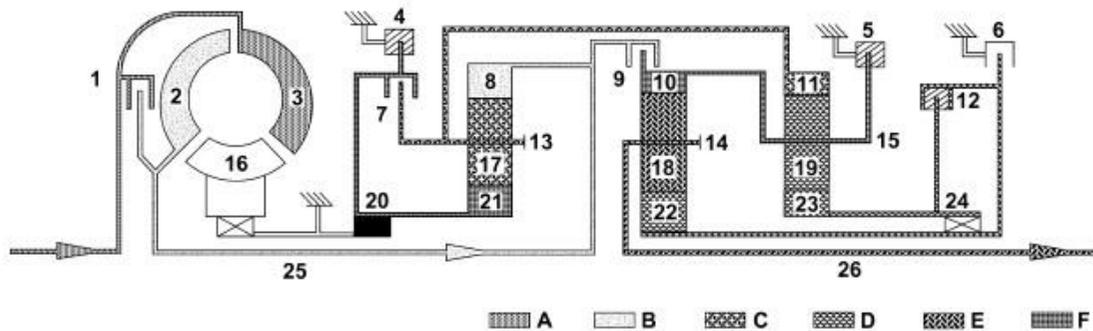
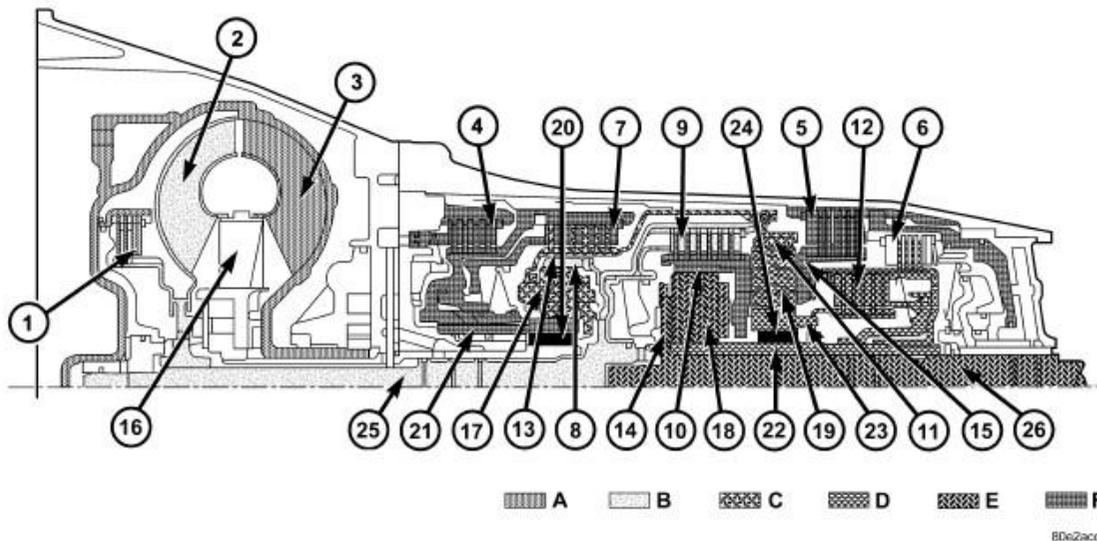

Fig. 12: Reverse Gear Powerflow (1 Of 2)
Fig. 13: Reverse Gear Powerflow (2 Of 2)
Torque from the torque converter is increased via the input shaft (25) and all three planetary gearsets and transferred with reversed direction of rotation to the output shaft (26). Refer to **Fig. 13** and **Fig. 12**.